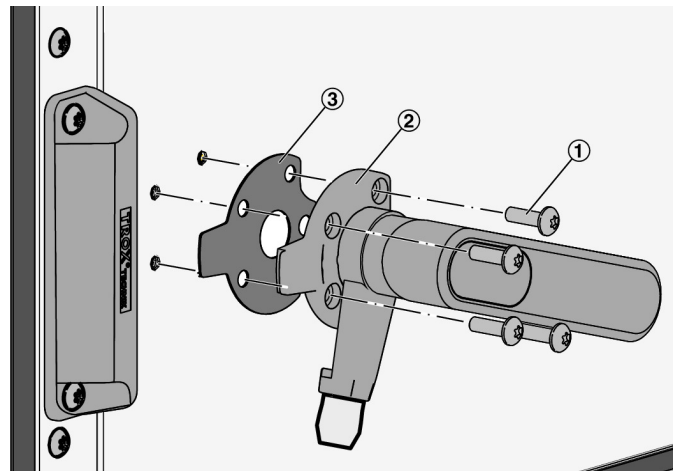

Fig. 43: Adjusting contact pressure of the inspection access door
8. ▶ Loosen screws ( Fig. 43 /1) of the locking mechanism ( Fig. 43 /2) and insert the compensating plate ( Fig. 43 /3). Install by following these steps in reverse order and tighten the screws.